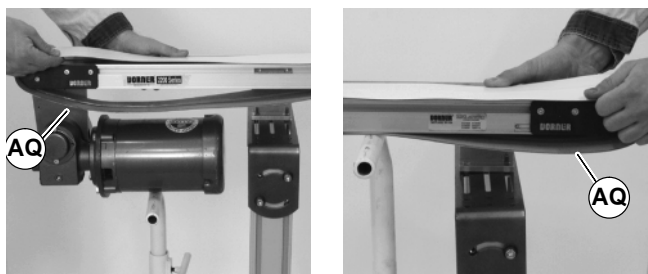

Figure 22
- Remove belt (AQ of Figure 22) from conveyor.